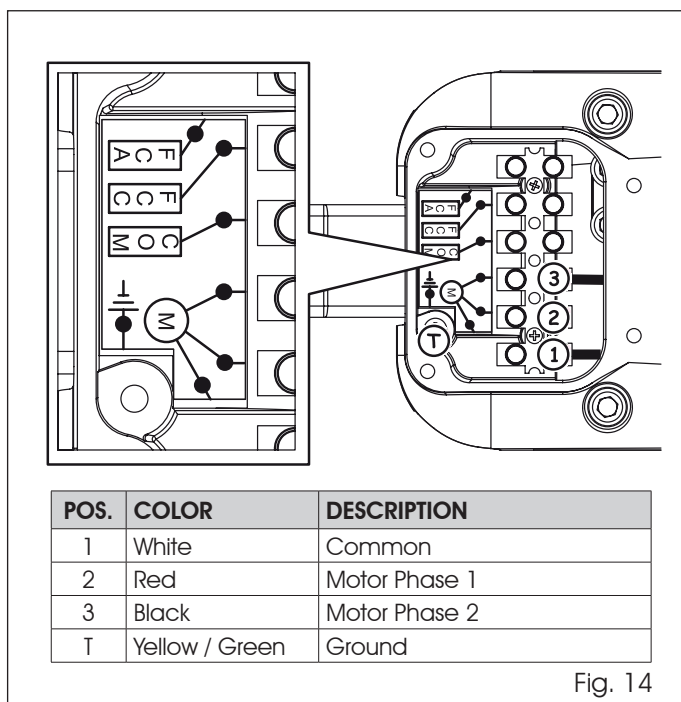

Fig. 14
3. Thread the two conductor cable through the strain relief and connect the wires as shown in Fig.14.